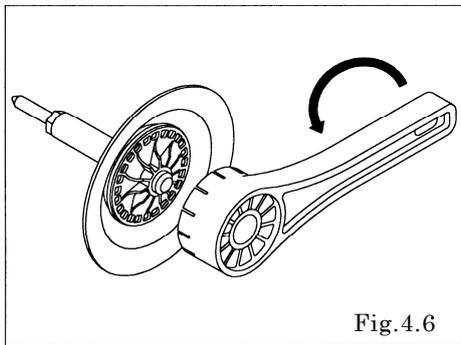

Fig.4.6
- Remove the center disk with spanner (21mm), and remove the diaphragm, center disk and O ring (PC, PT) from the center rod. (AD-10P□ type) [Fig. 4.6]
- Remove the center disk with the attached tool (dedicated tool: part No.771244), and remove the diaphragm, center disk and O ring (□T type) from the center rod. (AD-25P□, AD-25V□ type) [Fig. 4.6]
- Remove the center disk with the PP wrench (dedicated tool: part No.771868), and remove the diaphragm, center disk and O ring (□T type) from the center rod. (AD-40P□, AD-40VT, AD-50P□ and AD-50V□ types) [Fig. 4.6]